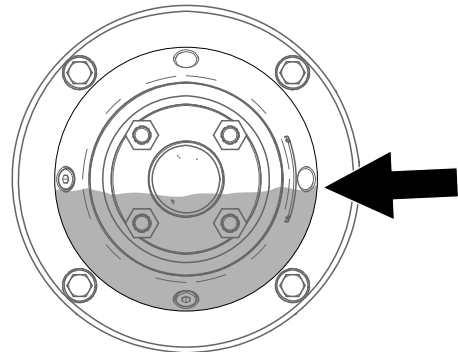

Figure 56
6. Add fluid, as specified at the beginning of this procedure, through the top hole until the level reaches the side plug opening (Figure 56).